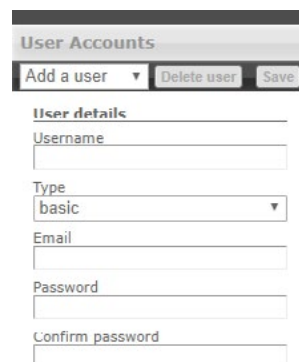

Figure 05: User Details
2. Fill in the fields under the **User details** section with the relevant information (Figure 05).